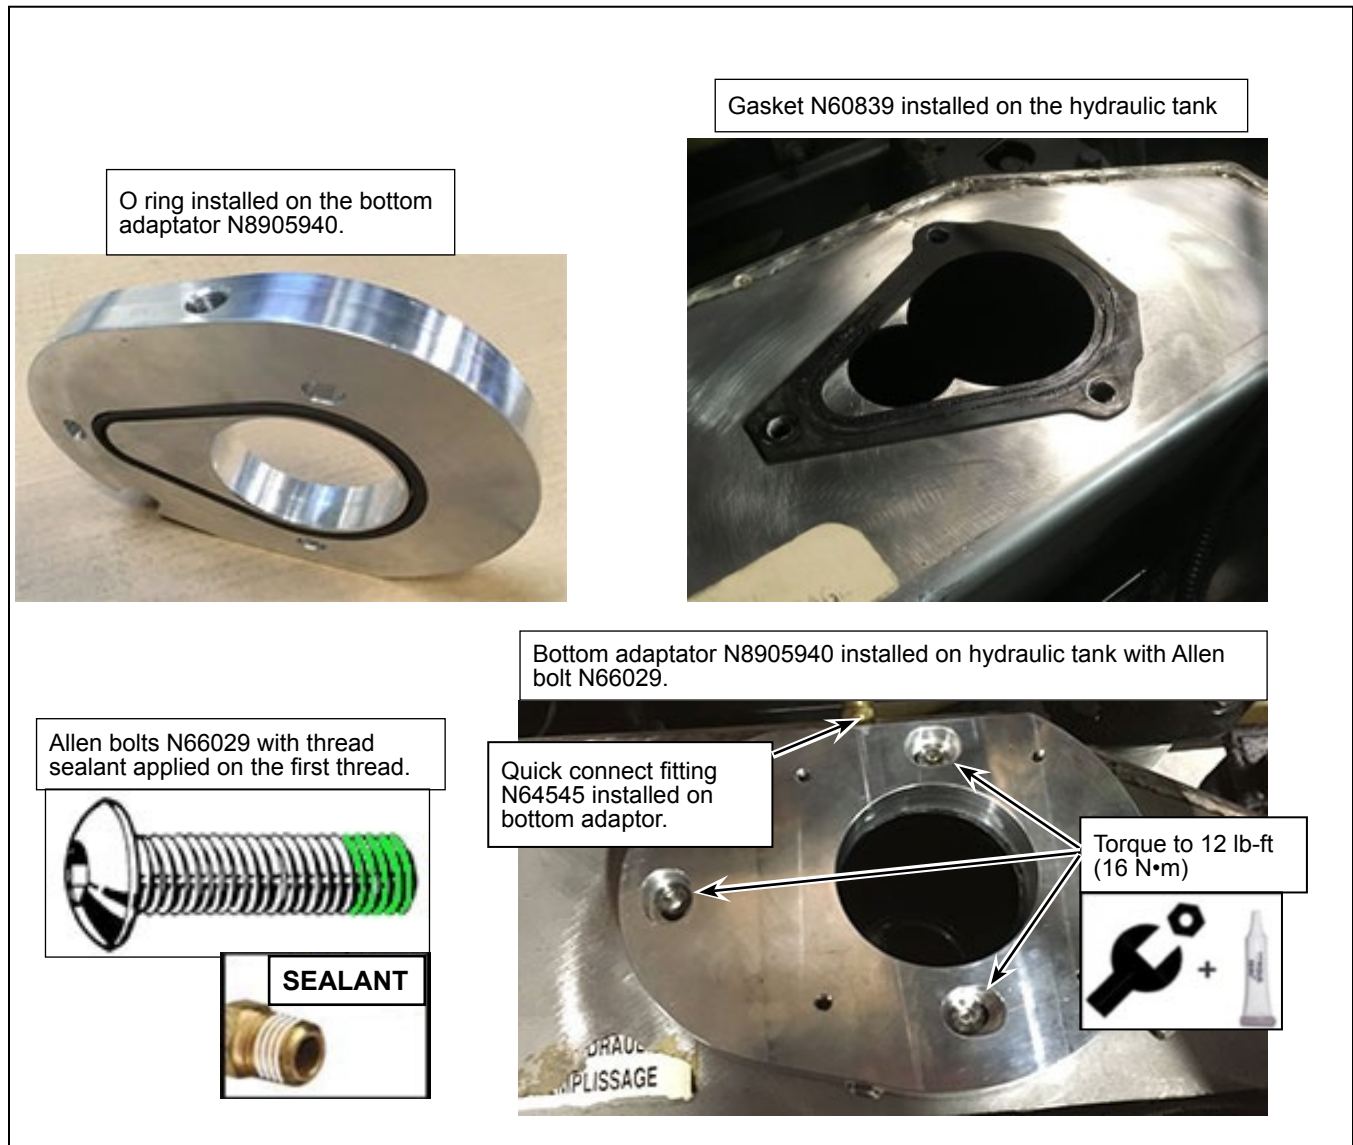

Figure 4 - Bottom Adaptor and Remote Breather Quick Connect Fitting on Hydraulic Tank
- 1.20. Install the supplied O-ring on the bottom adapter plate N8905940 (include in the N8905966 kit). See Figure 4.
- 1.21. Install the gasket N60839 on the hydraulic tank. See Figure 4.
- 1.22. Apply a thin coat of thread sealant on the first thread of the Allen bolts N66029. See Figure 4.
- 1.23. Install the bottom adapter plate N8905940 on the hydraulic tank using the the Allen bolts N66029. See Figure 4.
- 1.24. Install the quick connect fitting N64545 on the bottom adaptor plate. See Figure 4.